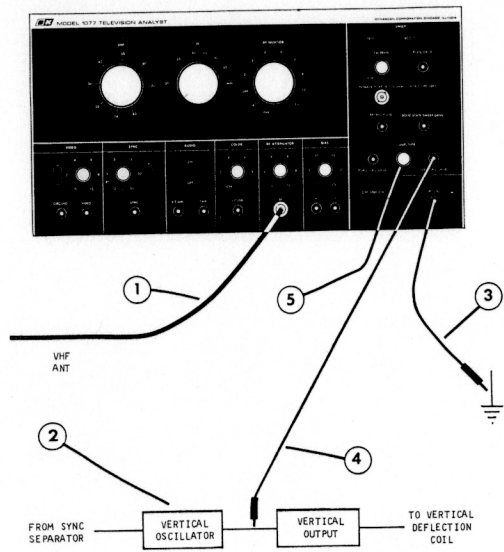

Figure 24. Connections for Vertical Grid Drive Signal
I. VERTICAL GRID DRIVE SIGNAL (See Figure 24)